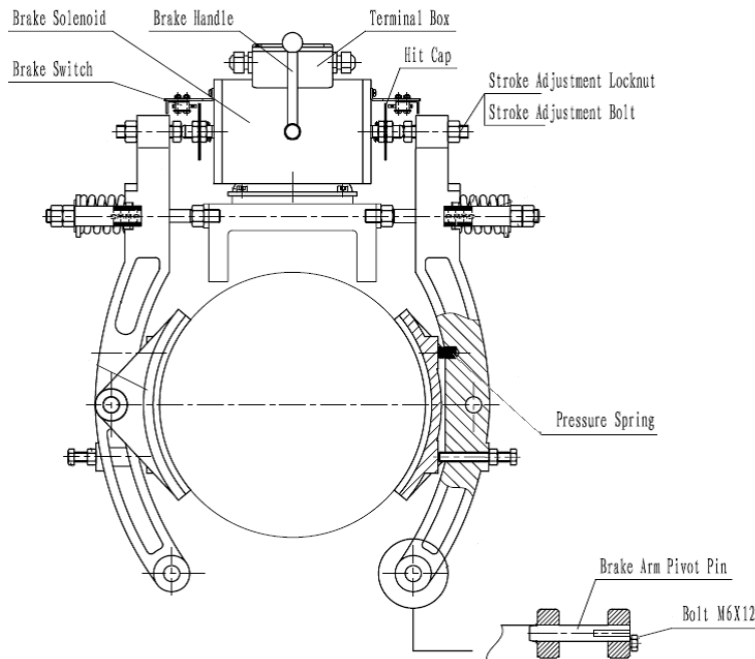

Figure 27 Normal Brake
1. Install the new brake onto the gear box, and attach it with the bolts M8x16 and washers, but do not tighten. See Figure 27.
2. Adjust the position of the brake, make the axis of the solenoid, the Spring Threaded Stud and the Stroke Adjustment Bolt aligned in the same plane, and tighten the bolts (4) M8x20, make the position of the brake secure.